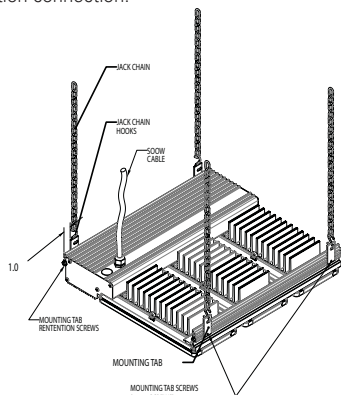

Figure 3 – Jack Chain Mounting
1. Mounting tabs are located 1" from each end of the luminaire from the factory (see Figure 3). If mounting tabs need to be relocated or become loose, tighten the 10-24 screws to 21 in.-lbs. before hanging the luminaire. Mounting tab retention bolts should be tightened to 65 in.-lbs. in all four corners of the luminaire. Mounting tabs should be placed equal distance from the ends of the luminaire to ensure the luminaire hangs level.
2. Chains should be cut to equal lengths to assure the luminaire hangs level. Install four (4) hooks and four (4) chains to the luminaire. One hook and one chain per mounting bracket found at each corner of the luminaire. Mount the luminaire a minimum of 36 inches away from the ceiling.